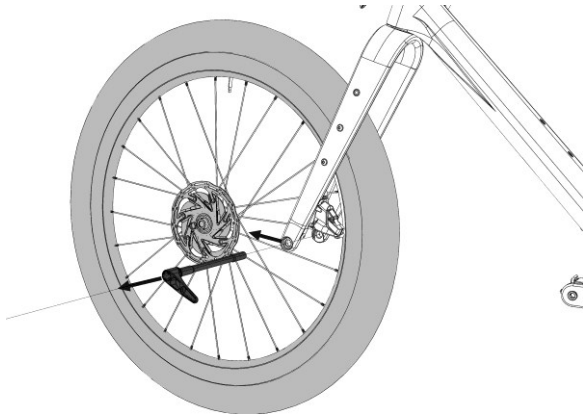

Figure 5: Remove front wheel from bicycle.
1. If fitted, remove the old front wheel by loosening and removing the thru axle (TA). See Figure 5. Typically, this can be done without tools or by using an Allen wrench, depending on your bike. Do not push your brake levers once no wheel is fitted.